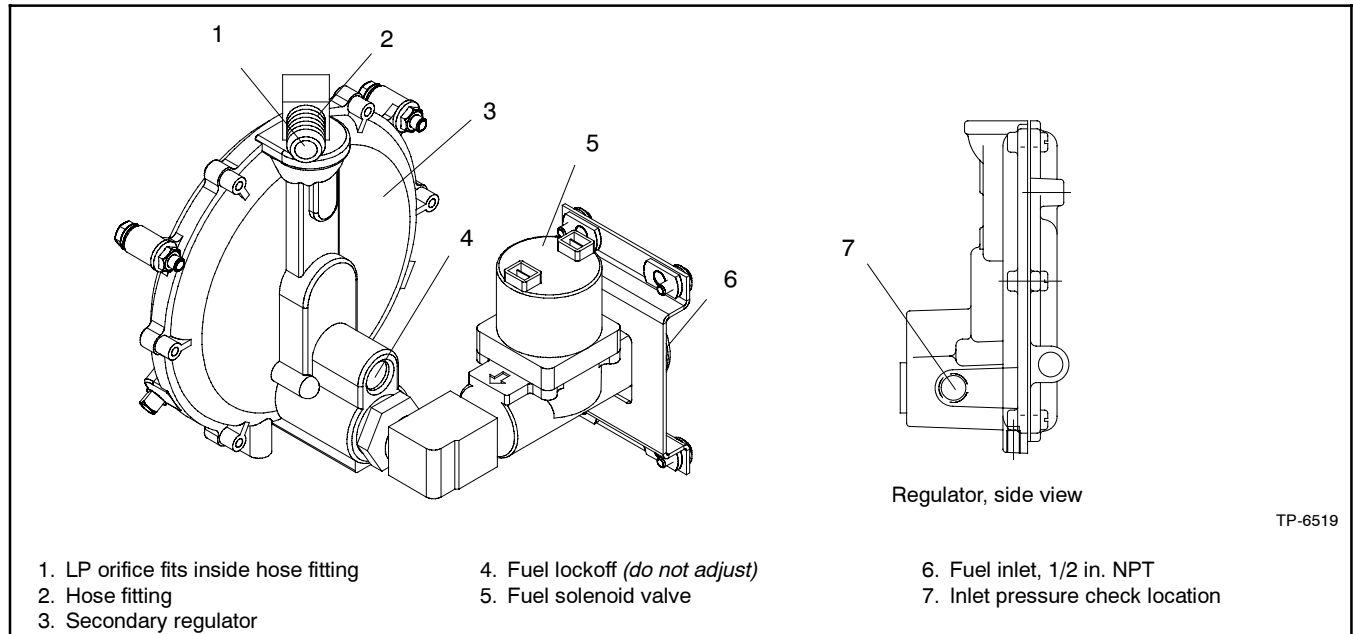
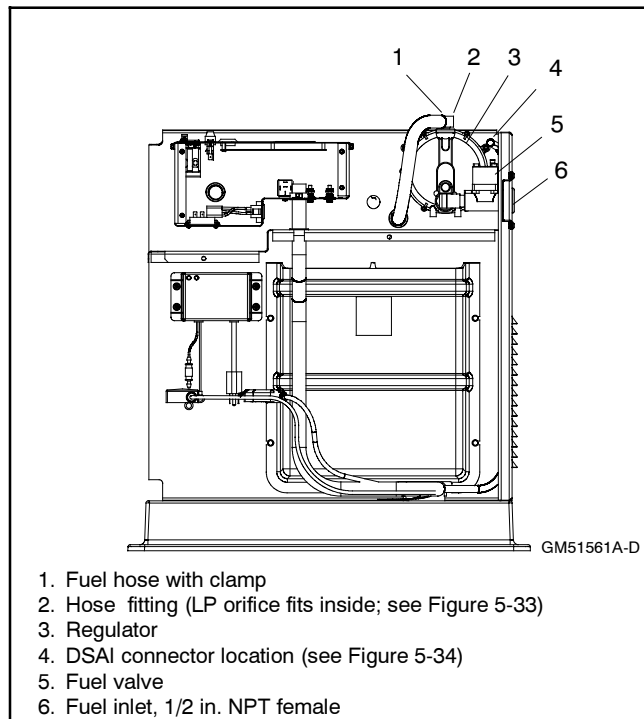

Figure 5-31 Fuel Regulator with LP Orifice and Fuel Solenoid Valve
Figure 5-32 Fuel System Components, Air Inlet Side
The fuel lockoff prevents fuel flow when the engine is not operating. See Figure 5-31. Do not try to adjust the fuel pressure, fuel mixture, or engine speed using the fuel lockoff.
Use a gauge or manometer to check the fuel pressure at the secondary regulator inlet. See Figure 5-31. Measure the fuel pressure with the generator set running at rated load. The fuel pressure should be 178–280 mm (7–11 in.) water column or 1.7–2.7 kPa (4–6 oz./in.²). Contact the fuel supplier if the inlet pressure is not within the specified range.
For LP vapor fuel, an orifice is used in the fuel line. The unit is typically shipped set up for natural gas, with the loose orifice tied near the fuel line. To convert to LP vapor, install the orifice and disconnect the spark advance leads as described below. See Figure 5-31 and Figure 5-32.
5. Remove the hose clamp and fuel hose from the hose fitting. See Figure 5-32.